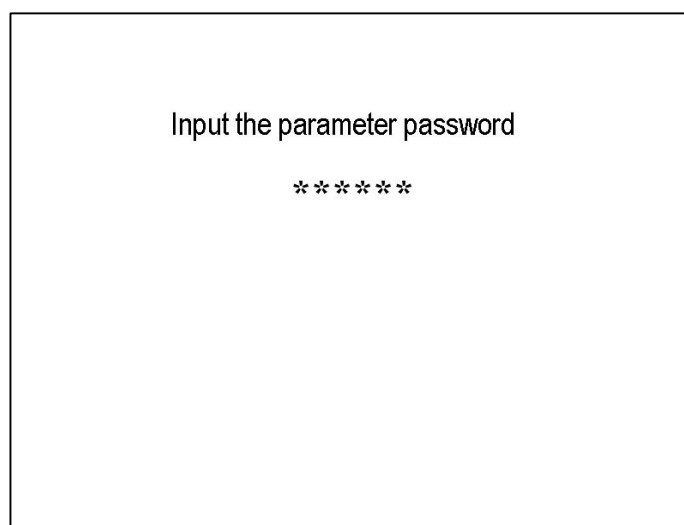

Fig. 2-27
- After entering the system parameter page, press “Change Password” key and it will skip to the password change page. Enter current password and new password according to the hint shown in the screen, as per Fig. 2-27.